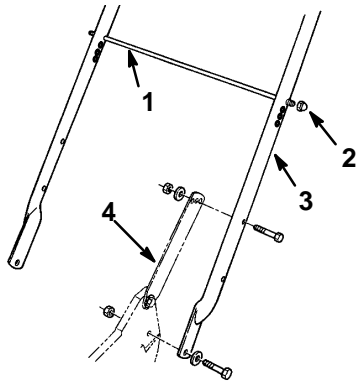

Figure 1
1. Mount handle to outside of mower housing, using bottom hole, with (2) 5/16–18 x 1–1/4" lg. capscrews, washers, and thin nylon insert locknuts (Fig. 1).
2. Secure handle latches to handle with (2) 5/16–18 x 1–1/2" lg. capscrews, washers and nylon insert locknuts (Fig. 1).
3. Slide bag support rod thru **top** mounting holes in handle and secure each end with a cap locknut (Fig. 1).